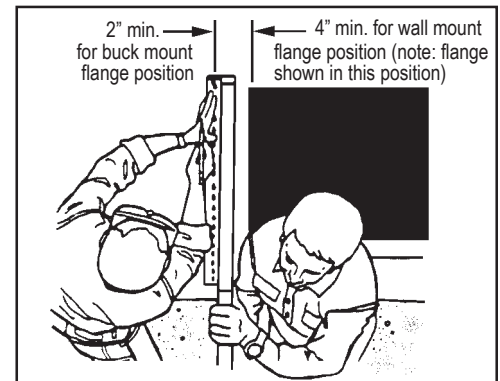

Figure 2
**Foundation Preparation:** Clean foundation substrate of dirt, debris, or excess concrete that would interfere with the Mounting Flange from having full contact with the foundation wall. Make sure that there is at least 4" of foundation material between fasteners and the window opening (see Figure 2).